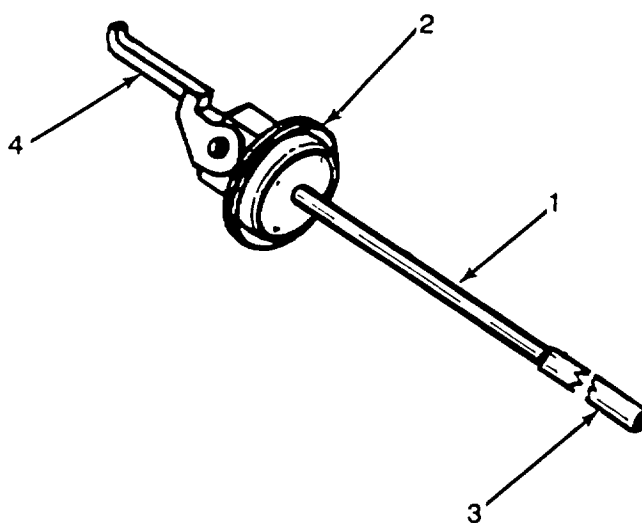

Figure 4-9. Fuel Drum Adapter.
- (1) Place the external fuel source several feet, but not more than 25 feet, away from the generator-set.
- (2) Remove the fuel drum adapter (item 1, appendix D) from the storage box. Refer to figure 4-9.
- (3) Make sure the fuel drum adapter components are clean.
- (4) Thread the fuel pickup tube (1) into the adapter (2).